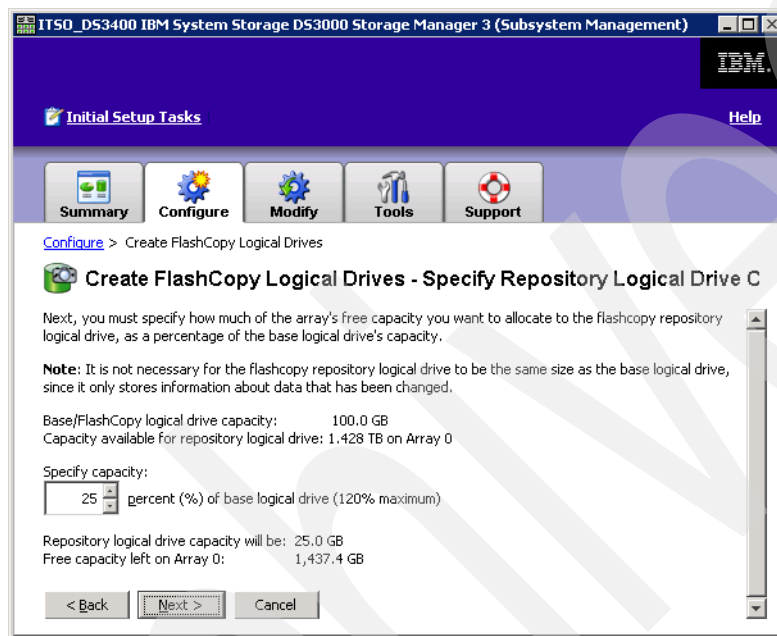

Figure 9-69 FlashCopy -Specify Repository
7. In the Create FlashCopy logical drive wizard, you will use this calculated value in the Repository Capacity window to specify the percentage (%) full box of base logical drive to set the estimated FlashCopy repository logical drive capacity (see Figure 9-69 on page 194).
- Both ways will bring you to the Specify Repository Logical Drive Capacity view (Figure 9-69). Here you specify how much of the array’s free capacity you want to allocate to the FlashCopy repository logical drive, as a percentage of the base logical drive’s capacity. Calculating this capacity is described in 9.4.2, “Estimating FlashCopy repository logical drive capacity” on page 185. Enter a value, depending on your requirements, and click **Next**.